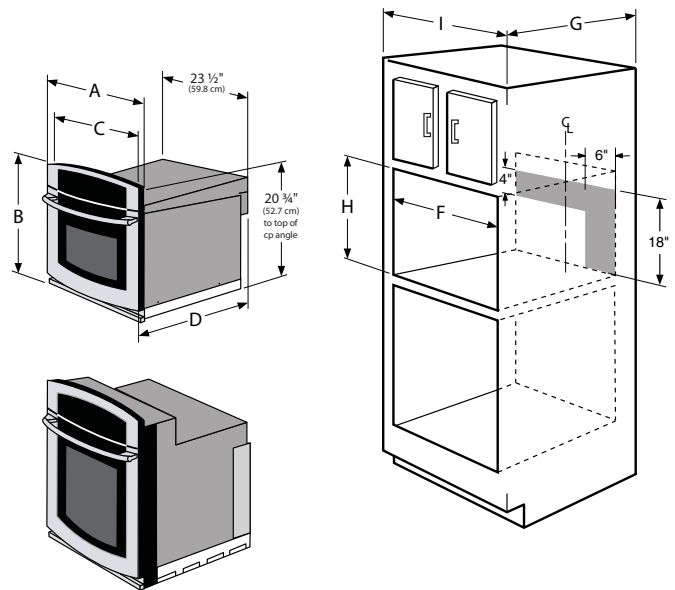

Figure 1
4. The outlet should not be located in the shaded area of Figure 1. It is required the outlet be a dedicated 120 volts with a 15amp rating for the appliance.
Refer to Figure 1 for the dimensions required for your appliance, and the space necessary to install the oven. The oven support surface should be solid plywood or similar material, the surface must be level from side to side and from front to rear.